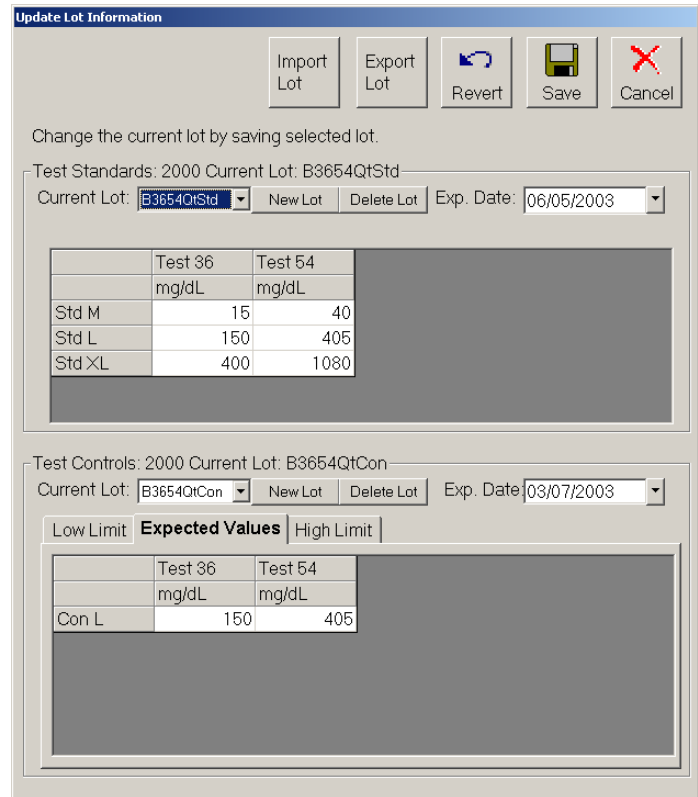

Figure 5-45. Update Lot Information Dialog Box
2. Select the template to receive the imported lot and click **Select**. The **Update Lot Information** dialog box opens. See Figure 5-45.
2. Double-click the template containing the lot to export. The **Update Lot Information** dialog box opens. See Figure 5-45.